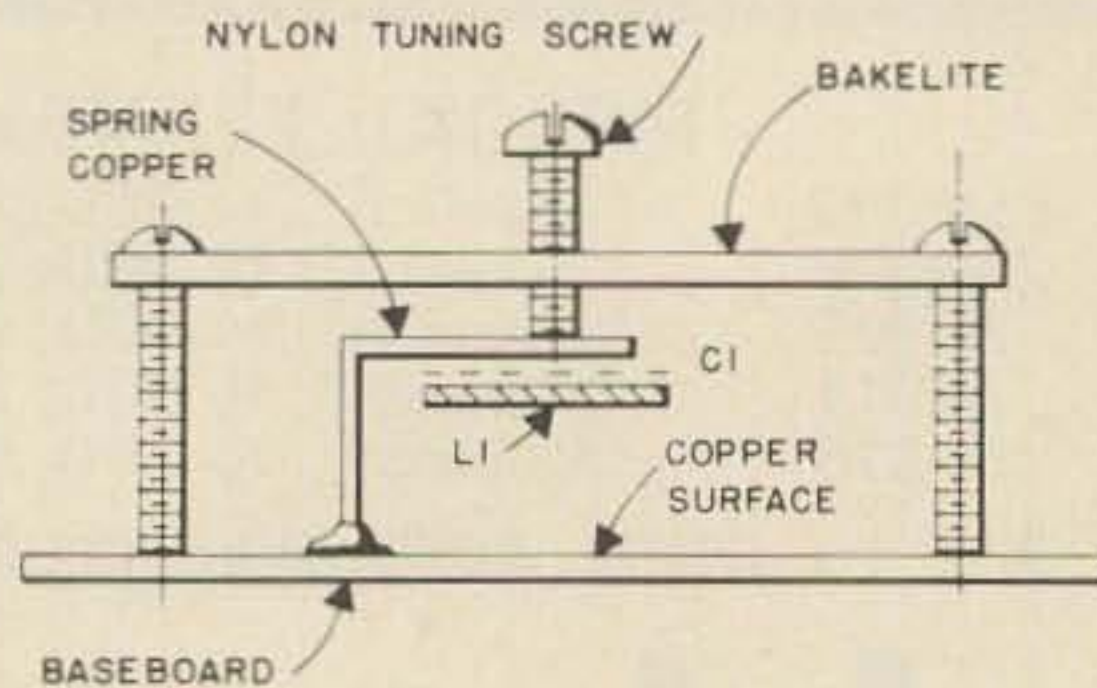

Fig. 1D. Side view of the 1296 receiver, and detail of C2.
4. The adjustable input coupling capacitor C2 should be made up as in Fig. 1D, which shows one continuous piece of spring copper strap from J1 over to the movable part on top of L1.